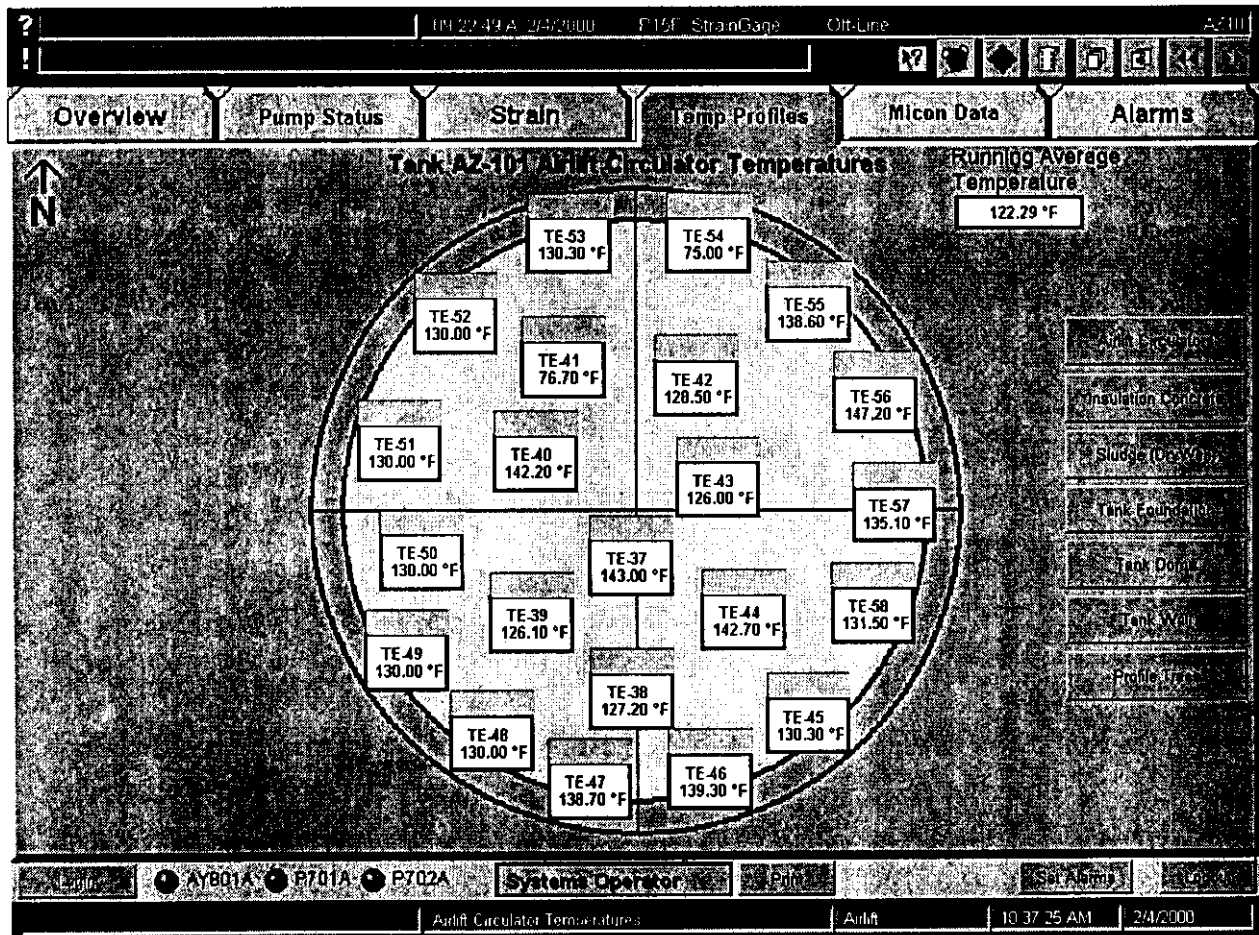

FIGURE 7
- "TEMP PROFILES" (Figure 7)
Selecting the "TEMP PROFILES" tab displays tank temperature data as shown in Figure 7. Selecting the following buttons to display the selected temperature data:
Each individual temperature element, when selected with the mouse, will display a trending chart of its associated data. These charts function the same as described in section 2.7.1 Single Point Trend. The average of selected temperature data is shown in the upper right hand corner of Figure 7. If a user is a member of the Shift Supervisor, Remote Manager Node or System Engineer user groups, then each individual temperature indication is shown as a green or blue colored bar. If the bar is blue then the temperature for that point is included in the average--if it is green it is not included. Only Shift Supervisor or System Engineer users can change the averaging. NOTE: Multiple trending windows may be opened at one time, but is limited to a maximum of three.